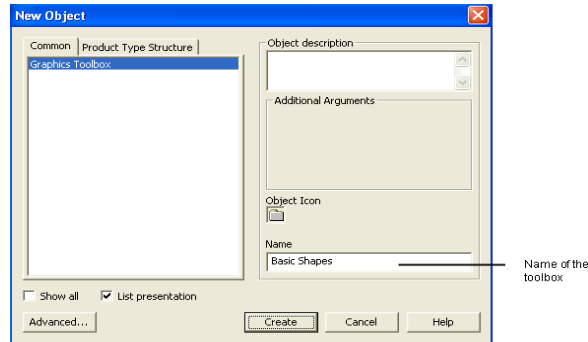

Figure 271. New Toolbox object
1. Create an object of **Graphics Toolbox** type in **Graphic Tools**. In this example, the toolbox *Basic Shapes* is created as shown in Figure 271.